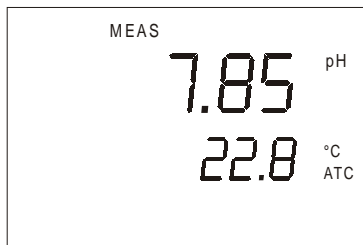

Figure 19 - Measurement mode
2. Switch on the meter. The MEAS annunciator appears on the top center of the LCD. The ATC indicator appears in the lower right hand corner to indicate Automatic Temperature Compensation. See Figure 19.